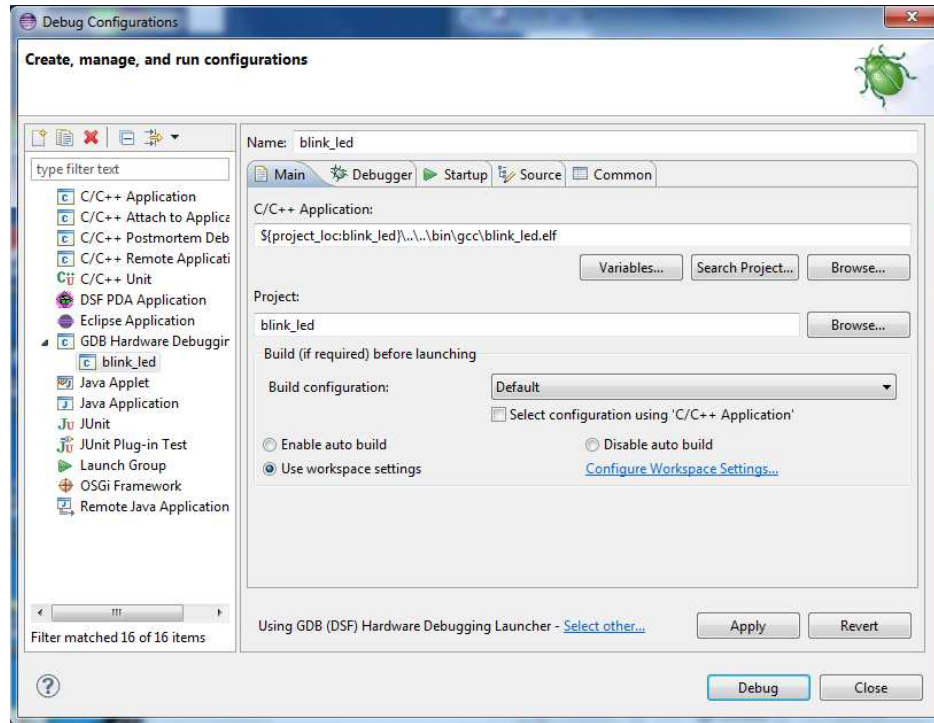

Figure 22. GDB Hardware Debugging – Main Tab
3. Make sure that the settings in the 'Main' tab are configured as in Figure 22.